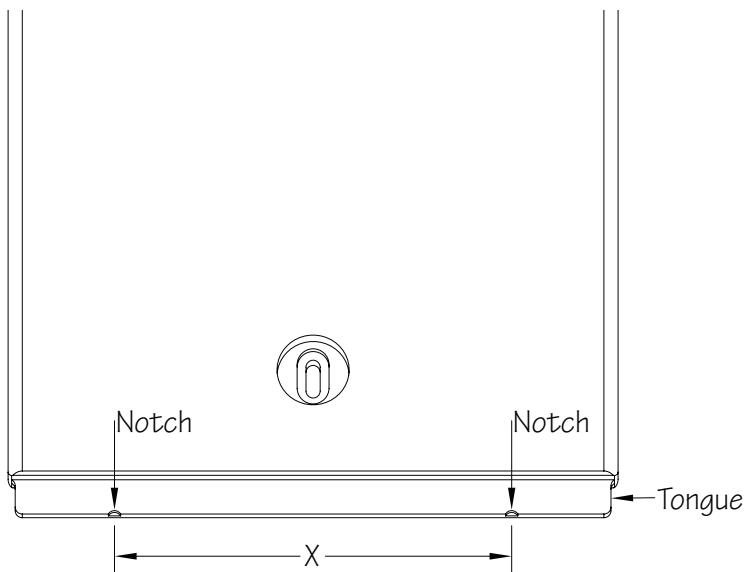

Fig. 4
2. Open the boxes and sort the coping boards. The labels on the boxes specify the lengths and widths that the boards are intended to be installed on. To further identify the side and rear width boards, measure the distance between the two notches cut into the tongue of the board and reference the table below to determine its location (Fig. 4).